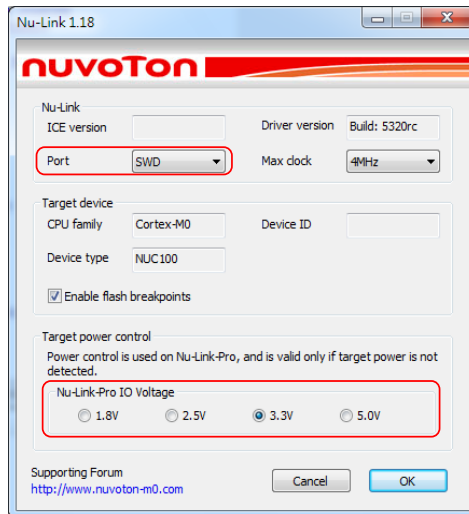

Figure 5.2-32 Specify the Port and Target I/O Voltage
- (8) Click **OK** to save the settings and return to the IAR EWARM main window.
- (9) Invoke **Nu-Link2-Pro** to open the *Nu-Link* form, select **SWD** as the Port, and specify the **Nu-Link2-Pro I/O Voltage** in the **Target power control** section (3.3V in this case), as shown in Figure 5.2-32.